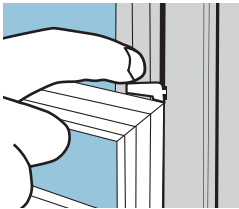
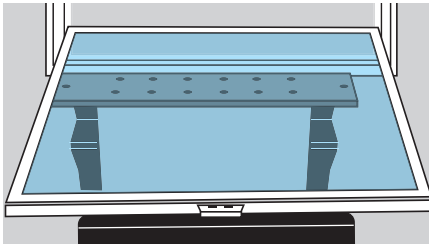

Fig 46.
Fig 47. Tilt and rest inner sash
2. Slide catches towards centre of the window (fig 46) while gently pulling sash inwards and rest it on a chair or a similar stable item (fig 47)